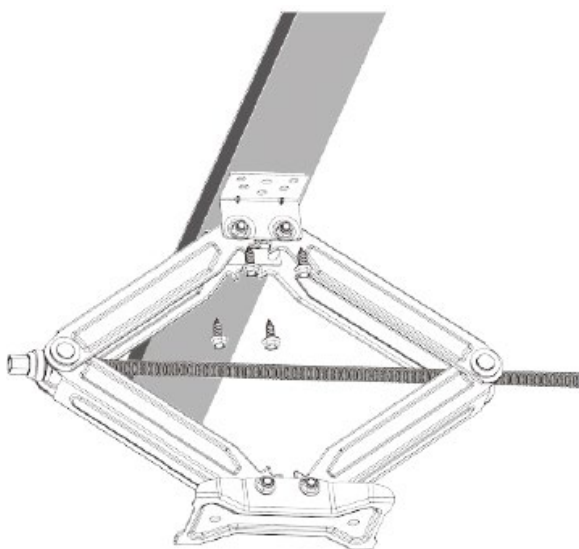

Figure 1
- Replace the jack, use a 9/16" socket and ratchet, attach the scissor jacks to the frame using 4 self tapping 3/8"x1" screws (Figure 1).